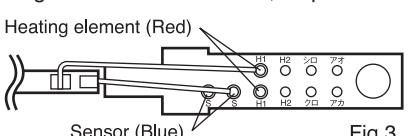

Fig.3
- Measure the resistance of each heating element. See Figure 3 for locating the proper wires. The values at room temperature should be.